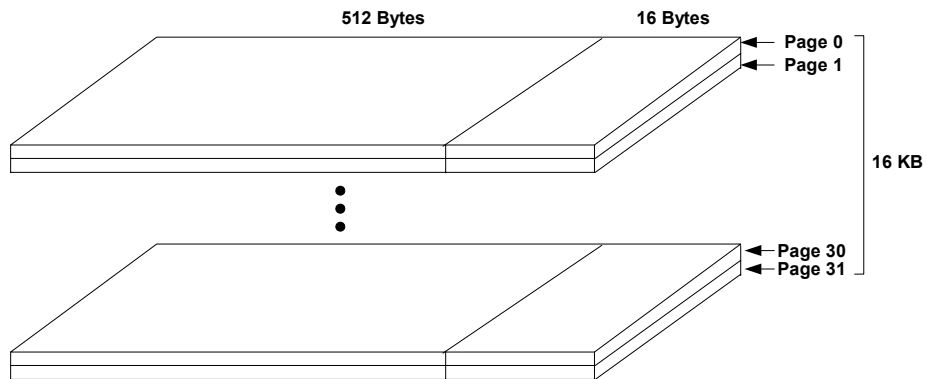

Figure 5: Block Structure
- **Block** – Each block contains 32 pages (total of 16KB), as shown in Figure 5. A block is the minimal unit that can be erased, and is sometimes referred to as an erase block.